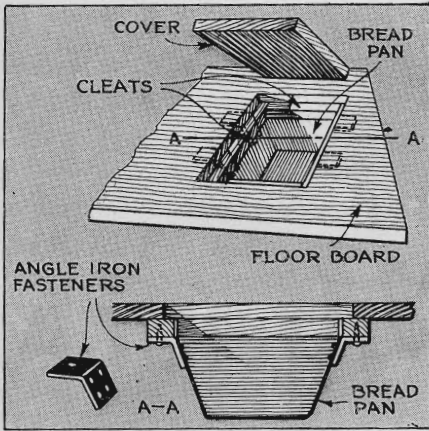

Fig. 1. How to construct an ingenious and simple floor board tool box from an ordinary bread pan.
**A** NEAT and simple floor board tool box made from a bread pan is shown in Fig. 1. To install, cut out a piece of the floor board with a keyhole saw. Underneath the opening nail two strips to form a support for the piece you have sawed out, which will be the cover of the box. To this strip fasten four angle iron pieces set as shown in the drawing.